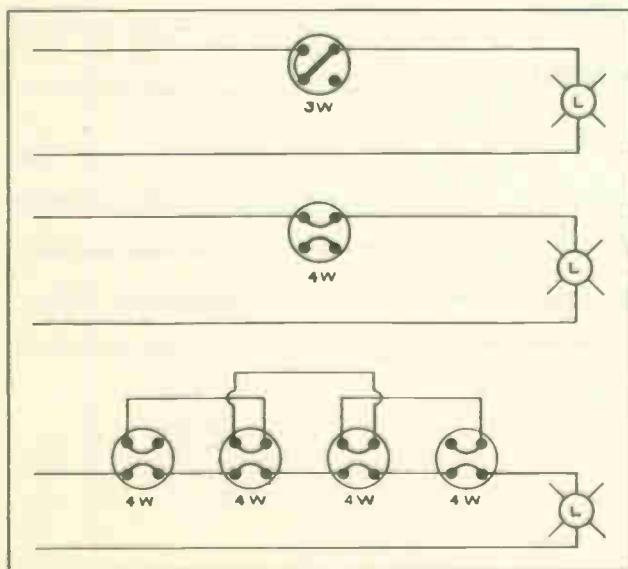

Fig. 7
2. Substitutions - a double-pole switch can be used as a single-pole switch; a three-way switch can be used as a single-pole switch, Fig. 7; a four-way switch can be used as a single-pole switch, Fig. 7, a four-way switch can be used as a three-way switch, Fig. 7; a four-way switch can be used as a two-circuit electrolier switch; a three-way switch can be used as a two-circuit electrolier switch.